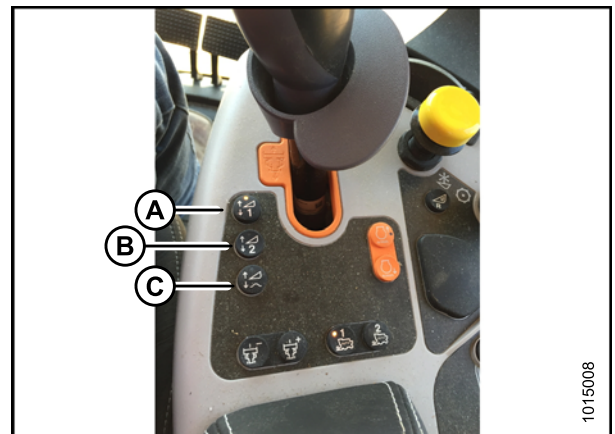

Figure 5.279: New Holland Combine Controls
5. Select one of the auto height set point buttons shown in Figure 5.279: *New Holland Combine Controls, page 267*.